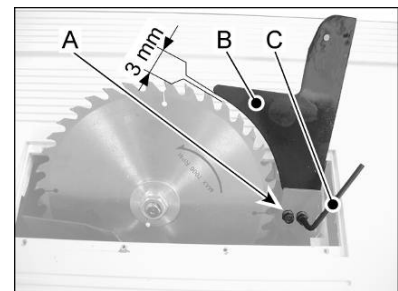

Fig 11
The raving knife (B, Fig 11) is clamped with 2 socket head screws (A).